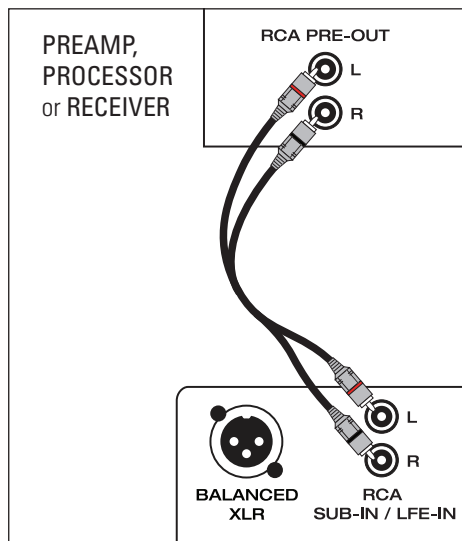

Fig. 3b
2. **Stereo Input (Left & Right)** connects from the Stereo Preamplifier, Stereo Receiver or other suitable line-level stereo source (Fig. 3b).